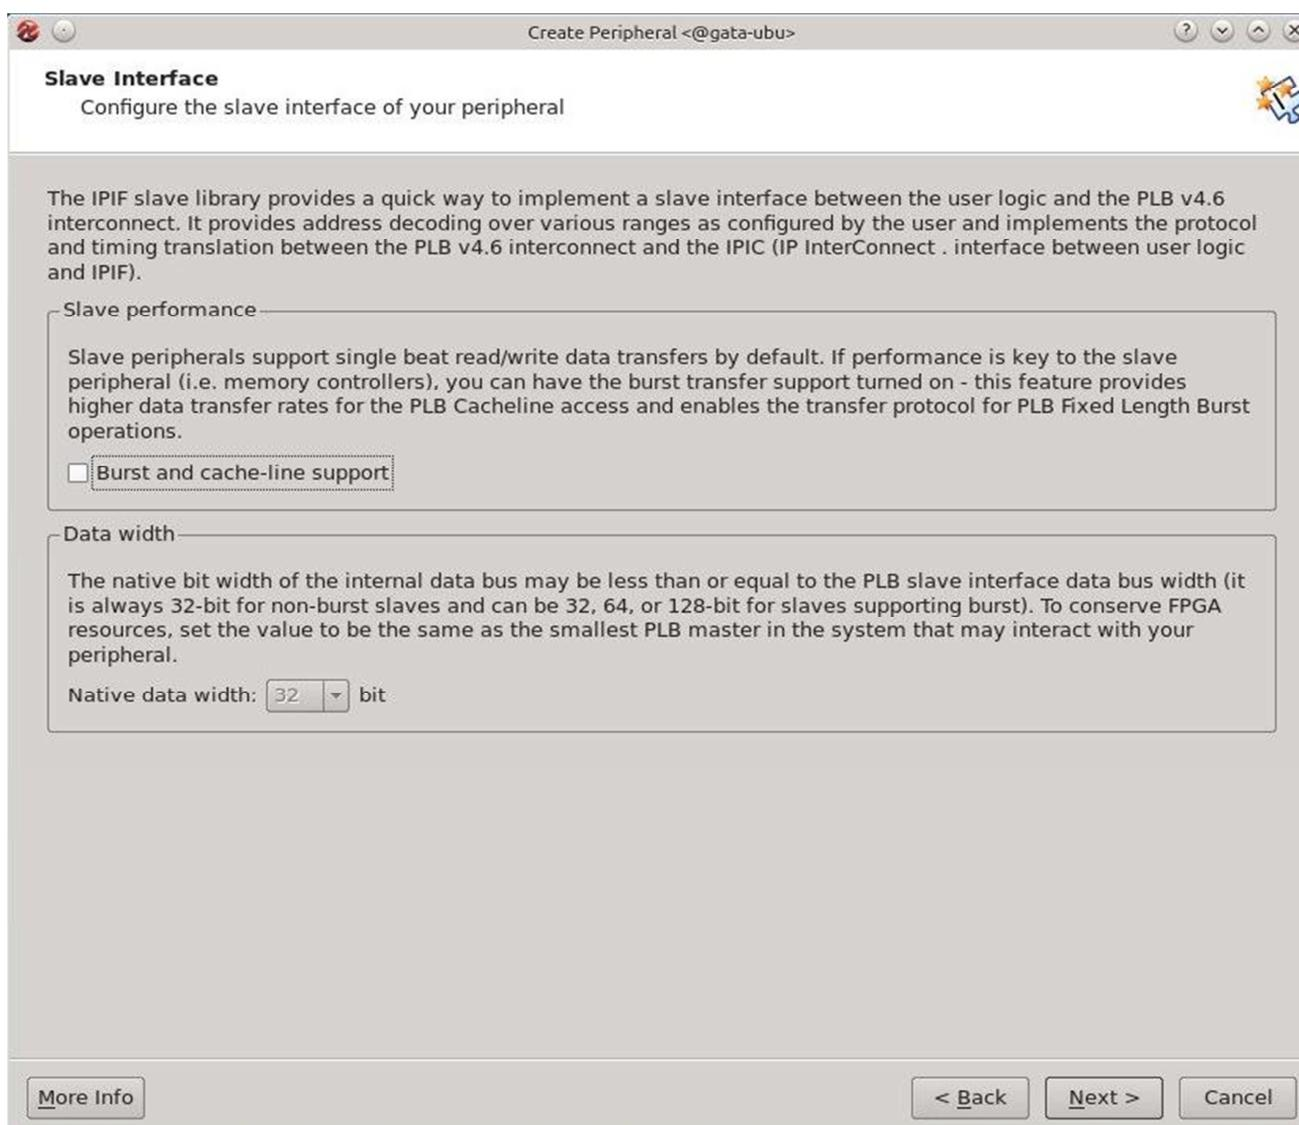

Figure 8: Create and Import Peripheral Wizard (Step 7)
**Step 7:** The following page of the wizard is shown in **Figure 8**. In this window you have the option to add cache support for your device as well as changing the data bus width. You do not need to do any changes in this screen. Press “**Next**” to continue.